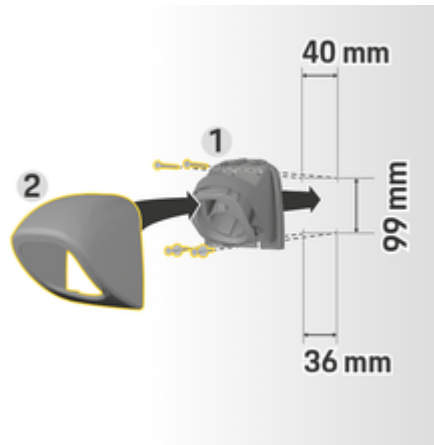

Fig. 8: Drilling dimensions
1. Remove the connector fastener 1 (Fig. 8) from the cover 2 (Fig. 8).
4. Screw the connector fastener 1 (Fig. 8) onto the wall.
5. Fit the cover 2 (Fig. 8) onto the connector fastener 1 (Fig. 8) from below and push up.